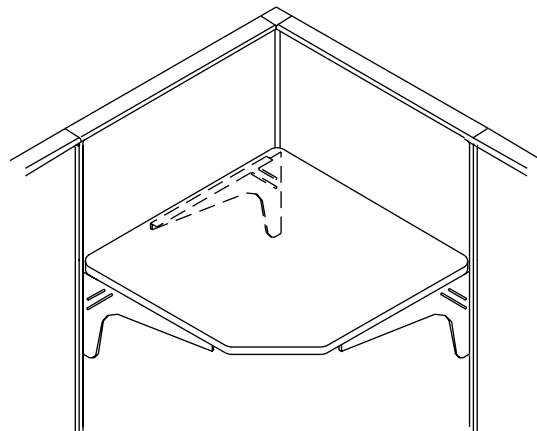

FIG. 3
**NOTE: On worksurfaces 60" or longer and on 90° corner worksurfaces, a second "L" cantilever bracket is installed in the panel joint near the center of the worksurface (Figure 3).**